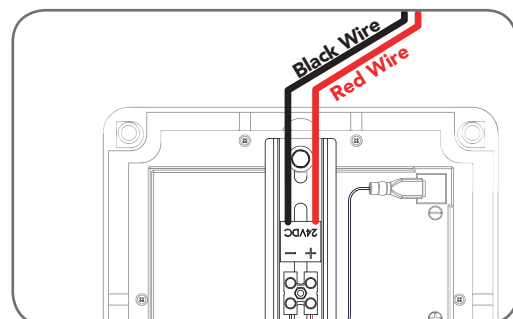

Fig 25
5. Connect the **red wire** to the Battery Box's "**+**" terminal, and the **black wire** to the "**-**" terminal (Fig. 25).